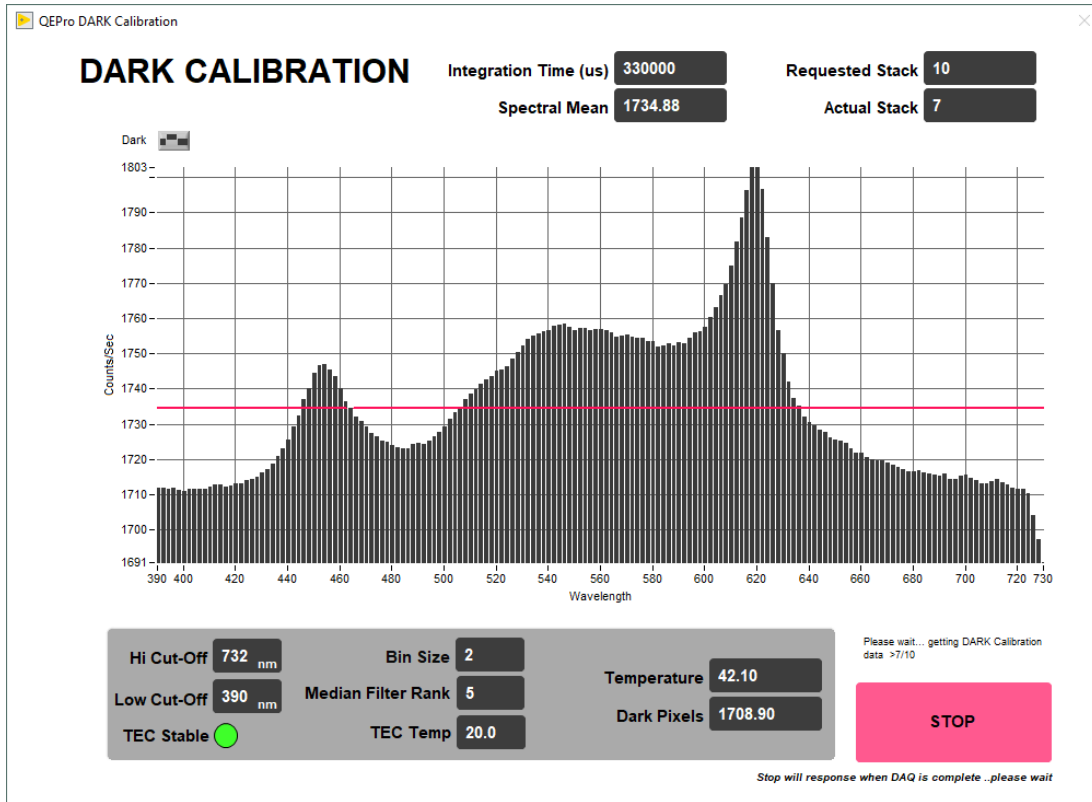

Figure 25. DARK Calibration Screen
6. After the WHITE measurements are completed, the shutters on the light sources will close and the DARK measurement will acquire 20 measurements. The dark measurement is a baseline measurement that includes thermal noise of the system. On the screen (Figure 25):